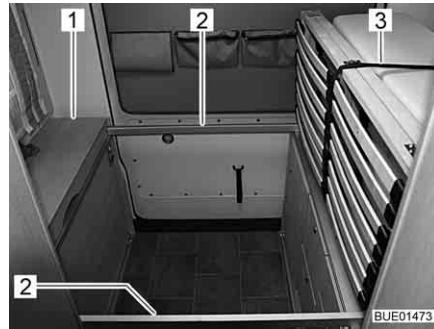
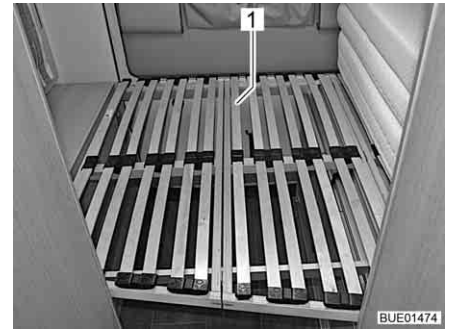

Fig. 71 Support brackets for foldable bed
Fig. 72 Slatted frame
- ▷ When the cover (Fig. 71,1) is closed it is held in place by a magnetic catch which is why some resistance will be felt when it is opened.
- Swing up the cover (Fig. 71,1) and hold open.
- Swing out two support brackets (Fig. 71,2) and place them on the opposite side on the lower cupboard.
- Close cover (Fig. 71,1).
- Open the fastener of the belt (Fig. 71,3) holding the slatted frame in the process.
- Fold out the slatted frame (Fig. 72,1) and slowly set it down on the support brackets.
- Fold the slatted frame together (Fig. 72,1) press against the mattress and secure with belt (Fig. 71,3).
- Swing two supports brackets (Fig. 71,2) below the cover.